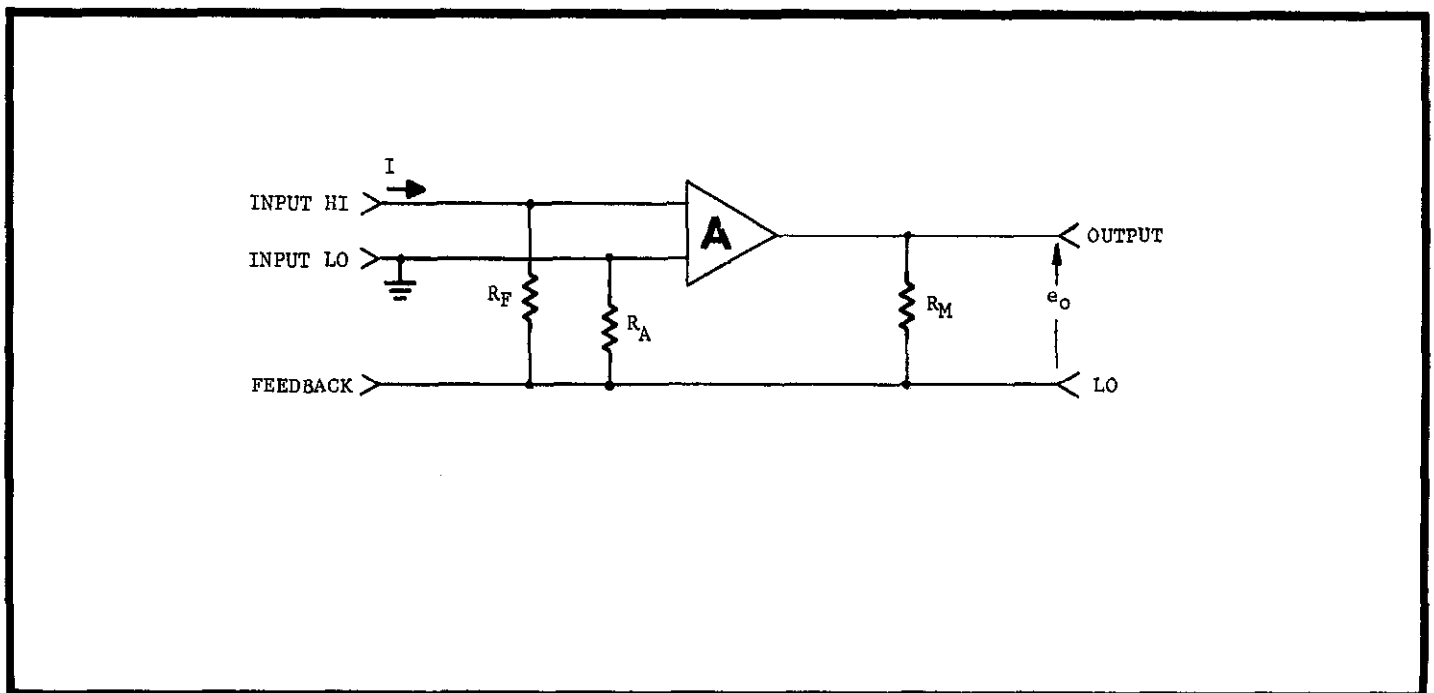

FIGURE 8. Current Fast Function.
1. Theory. The Model 640, when used as a feedback ammeter, can be illustrated as shown in Figure 8. In this configuration the instrument is useful for making sensitive measurements from  $10^{-15}$  ampere full scale. Response speed is greatly improved compared to the VOLTAGE FUNCTION configuration since the effect of input capacitance is largely neutralized. The input voltage drop and effective ammeter input resistance is given for each RANGE setting as in Table 2-1.